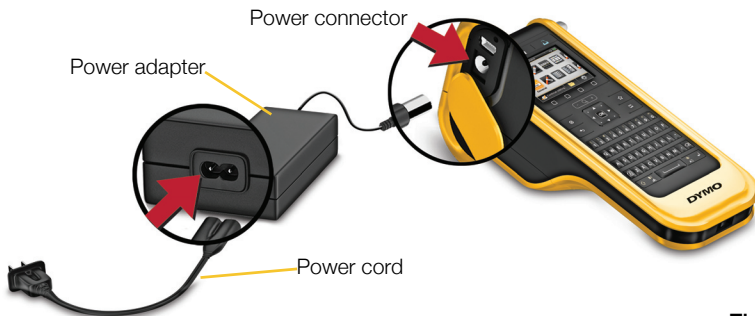

Figure 5
- 2 Plug the power cord into the power adapter. See Figure 5.
- 3 Plug the power adapter into the power connector, and then plug the power cord into a power outlet. See Figure 5.